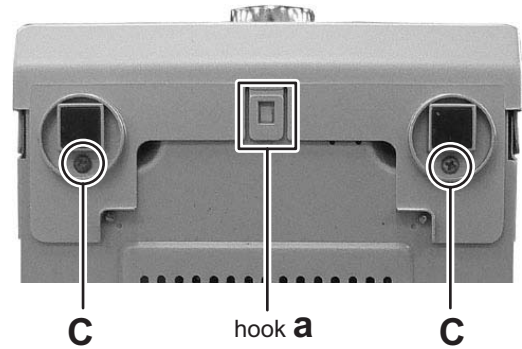

Fig.4
- (2) Remove the two screws **C** attaching the Front panel assembly. (See Fig.4)
- (3) Disengage the hook **a** engaged Front panel assembly. (See Fig.4)
### 3.2.3 Removing the traverse mechanism assembly (See Fig.4)